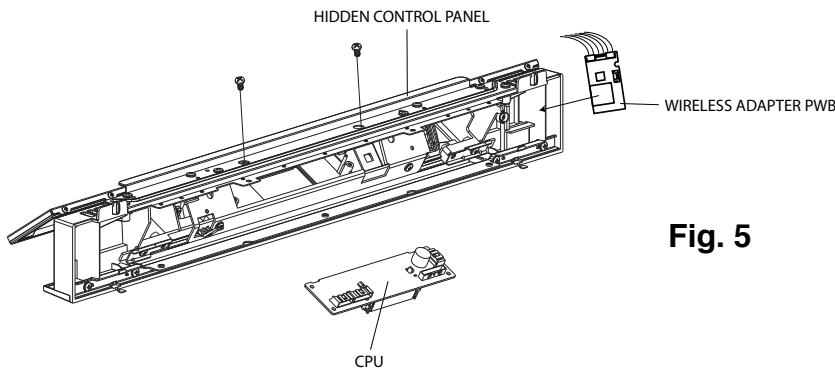

Fig. 5
1. Lay C/P on a protected surface upside down and remove the (2) screws using the access holes in the C/P bracket (**Fig 5**).